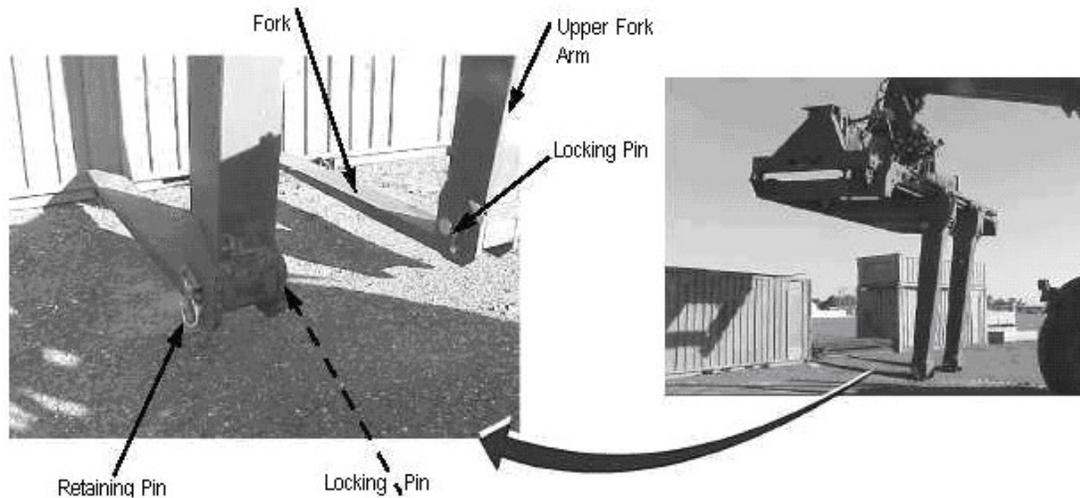

Figure 3-178
16. Install retaining pins and locking pins to secure forks to upper fork arms (see Figure 3-178).